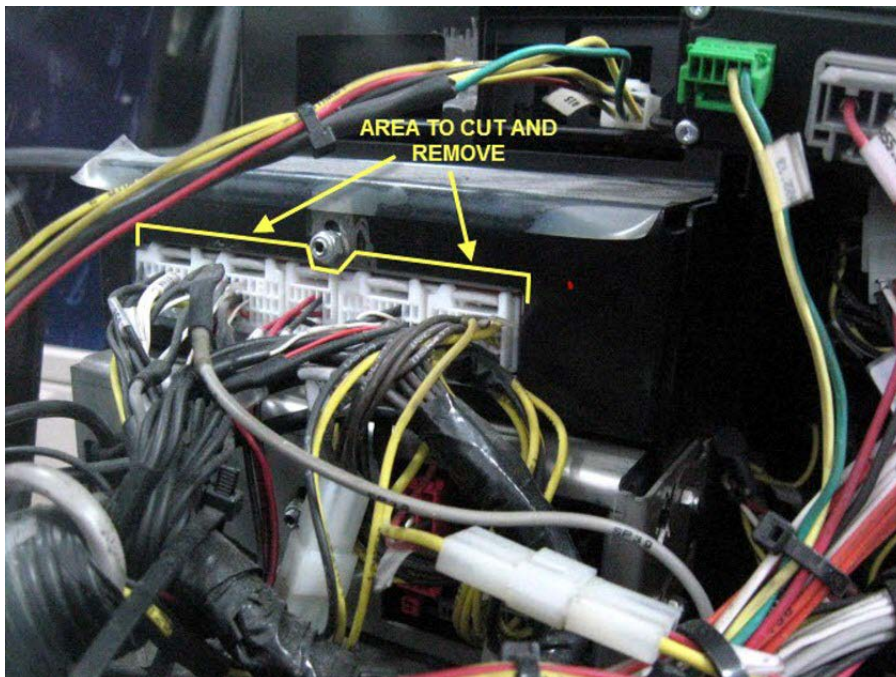
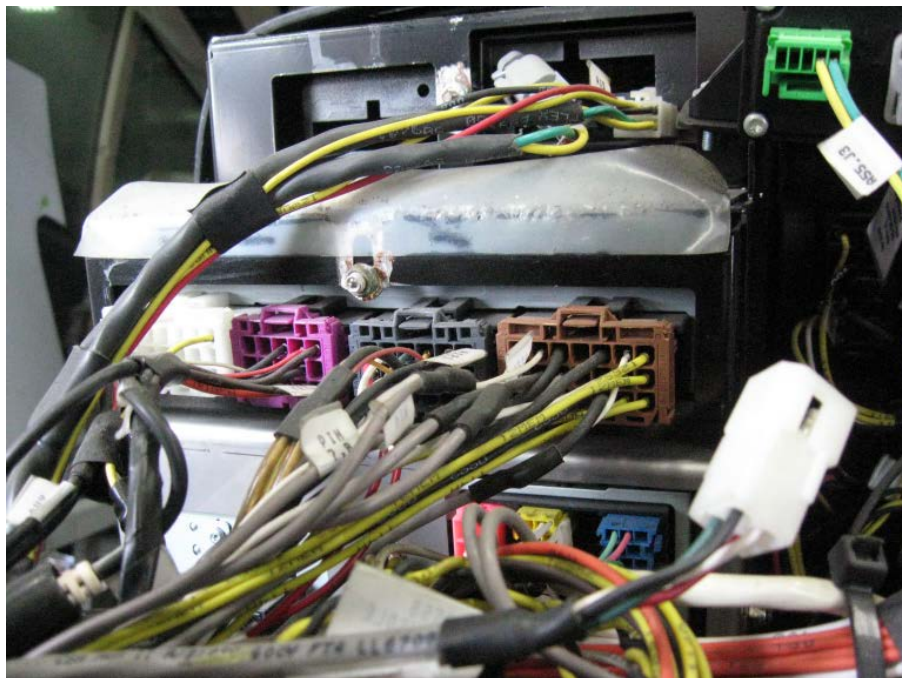

Fig.7 Area on the sound selector support to be enlarged.
Fig.8 Installed VSS05 showing enlarged support opening and bigger harness connectors.
7. Before installing the new VSS05 sound selector in place, the back support opening will need to be enlarged to allow sufficient clearance for the bigger VSS05 connectors. Use a die grinder and a small cutting wheel or a suitable carbide bit and follow Fig.7 and Fig.8 below.